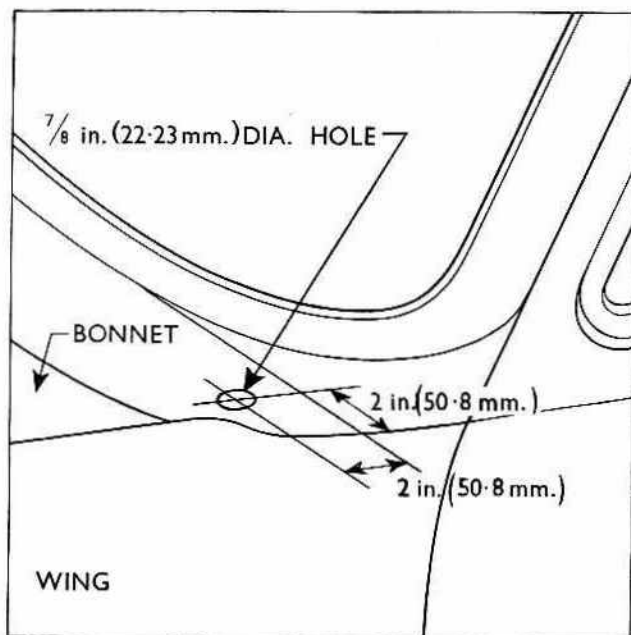

Fig. 600
- 2 Mark off one hole for the aerial mounting on the passenger side of the windscreen skirting panel (see Fig. 600), drill a pilot hole $\frac{1}{8}$ in. (3.175 mm.) diameter and then open out to $\frac{7}{8}$ in. (22.23 mm.) diameter. Take care not to damage the bodywork exterior finish when completing this operation but do not dress the hole as the ragged edge will ensure a good earth connection between the body and base of the aerial mast.